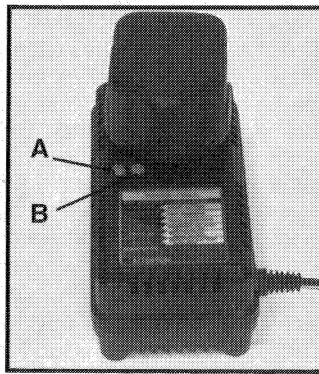

Fig. 5
Make sure power circuit voltage is the same as that shown on the charger specification plate. Connect charger to power source. The green light (A) Fig. 5, should begin to flash. This indicates the charger is ready to begin charging.
Position the battery pack to the charger, aligning the tongue on the battery pack with the slot in the charger. Insert battery pack into charger (see Fig. 5). DO NOT FORCE. If battery pack does not slide in easily, it is being inserted incorrectly: Realign battery pack tongue with charger slot and try again.
The green light (A) Fig. 5, should begin to glow continuously, indicating that the battery pack is receiving a "Fast Charge" (if the green light does not glow continuously, or if the red light (B) Fig. 5, also begins to flash: see DIAGNOSTICS). After approximately one hour, the "Fast Charge" indicator light should go out indicating that the battery pack is fully charged and that the charger is now in a "Trickle Charge" mode. The battery pack can be left on "Trickle Charge" until you are ready to use it.
The Model 8621 Charger is equipped with a diagnostic system that automatically checks the battery pack each time a pack is inserted into the charger. If no problems are found, the charger will automatically switch to "Fast Charge" mode as described in NORMAL CHARGING. If a problem is found, it will be indicated by the charger indicator lights (see Fig. 5), as follows: